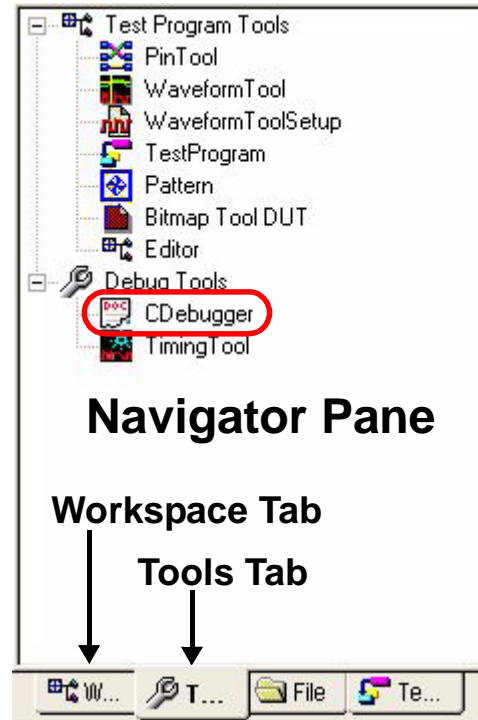
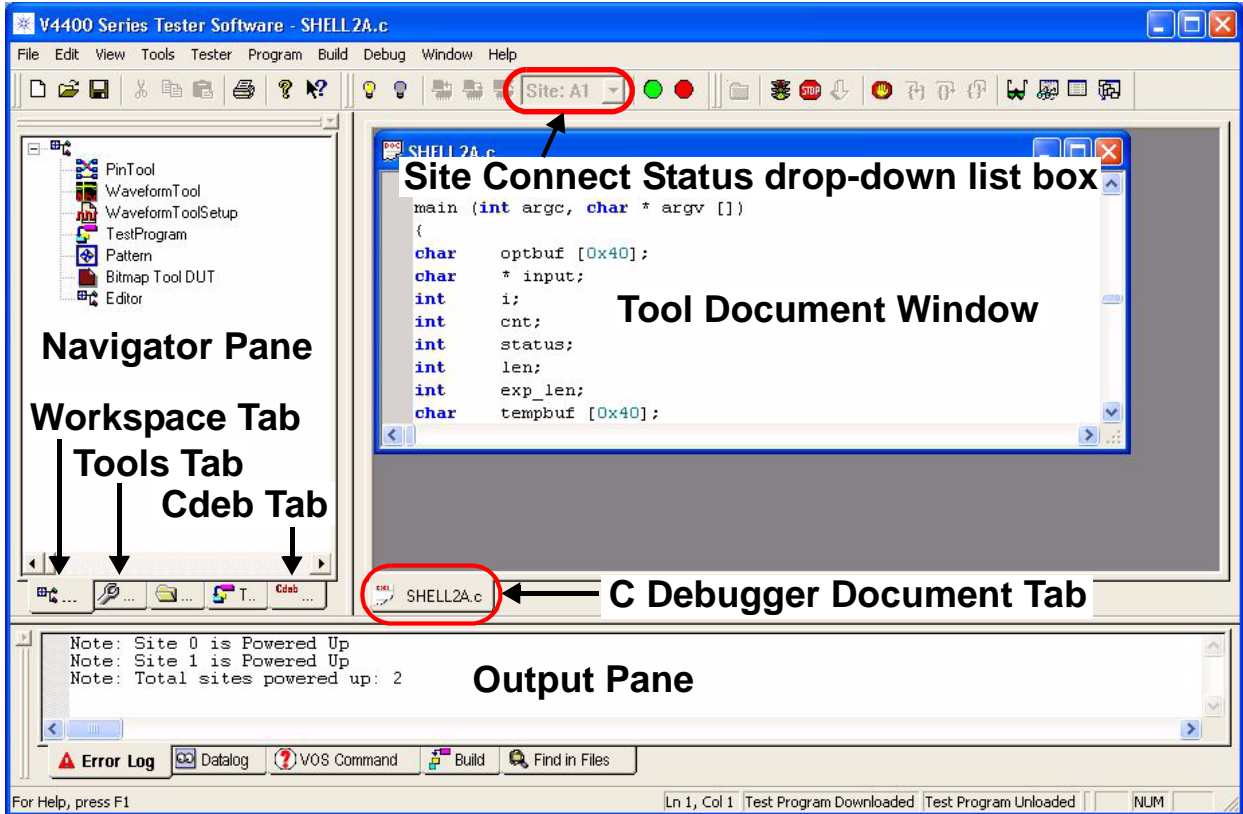

Figure 5-46. Navigator Pane Tools Tab
Figure 5-47. IDE Displaying C Debugger
- 4 In the Navigator Pane, selecting the Tools tab icon displays its tab (Figure 5-46).
- 5 Double-clicking CDebugger under Debug Tools (Figure 5-46) displays the C Debugger as the active tool in the Tool Document window (Figure 5-47). Selecting the tool makes the connection to that site and disables the Site Connect Status drop-down list box. This also adds the C Debugger **Cdeb** (Cdeb) tab to the Navigator pane, its menu bar and toolbar, and displays the Workspace in the Navigator Pane.